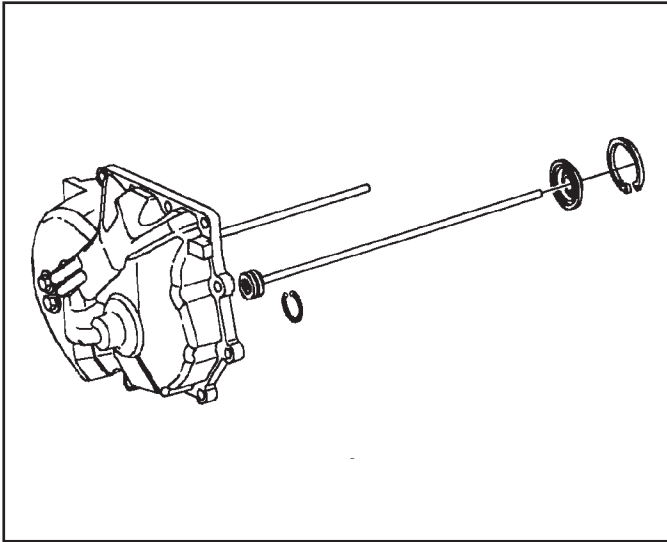

Figure 171
22. Lubricate the O ring on the 4th clutch flange and install the hub into the rear cover. Make sure the O ring does not bind up during installation (See Figure 171).
23. Using a suitable pair of snap ring pliers, install the 4th clutch feed pipe retaining snap ring into the rear cover above the flange (See Figure 171).
24. Carefully press into place the 4th clutch feed pipe lip seal (See Figure 171).
25. Using a suitable pair of snap ring pliers, install the lip seal retaining snap ring into the rear cover above the lip seal (See Figure 171).